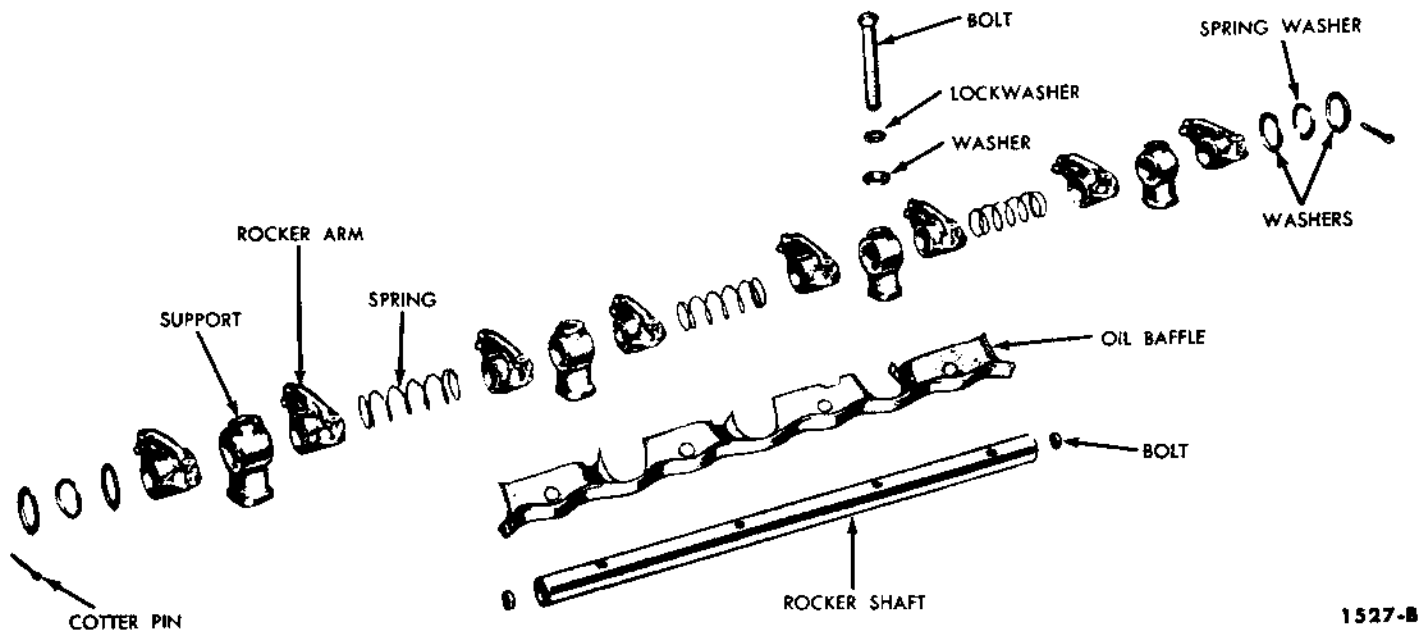

FIG. 50—Valve Rocker Arm Shaft Assembly
3. Install the rocker arms, supports, and springs in the order shown in Fig. 50. Be sure the oil holes in the shaft are facing downward. Complete the assembly by installing the remaining two flat washers with the spring washer between them and install the cotter pin.